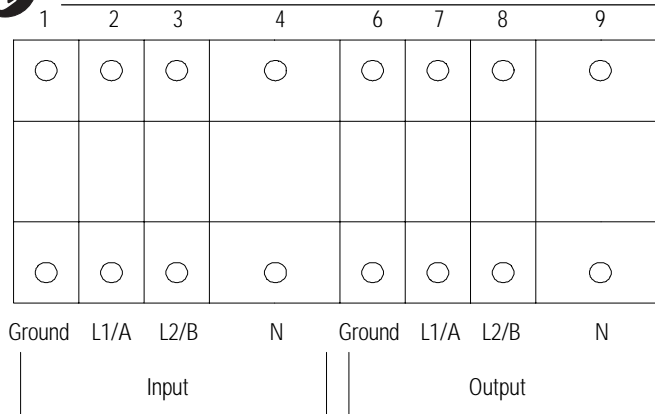

Figure 11. Hardwired Terminal Blocks
8. Hardwire the input (TB1-1 through TB1-4) terminations for the UPS. See the following hardwired terminations table for specifications. See Figure 11 for a detailed view of the terminal blocks.